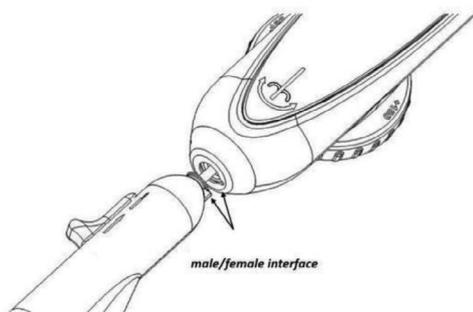

Figure 1 – AcQCross Qx and AcQGuide FLEX keyed orienting geometries with snap-fit closure
- Insert AcQCross Qx dilator/needle into AcQGuide FLEX introducer and lock components together in a preferred orientation (See **Figure 1**).